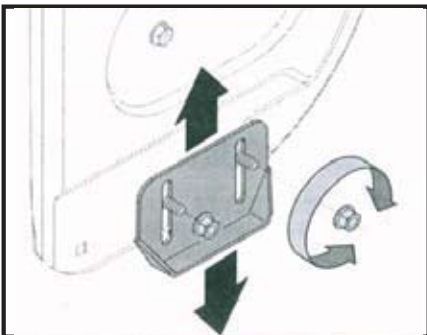

FIG. 14
- The space between the shave plate and the ground can be adjusted. See Figure 14.
- To remove the shave plate remove the carriage bolts and flange lock nuts which attach the shave plate to the snowthrower housing. See figure 14.